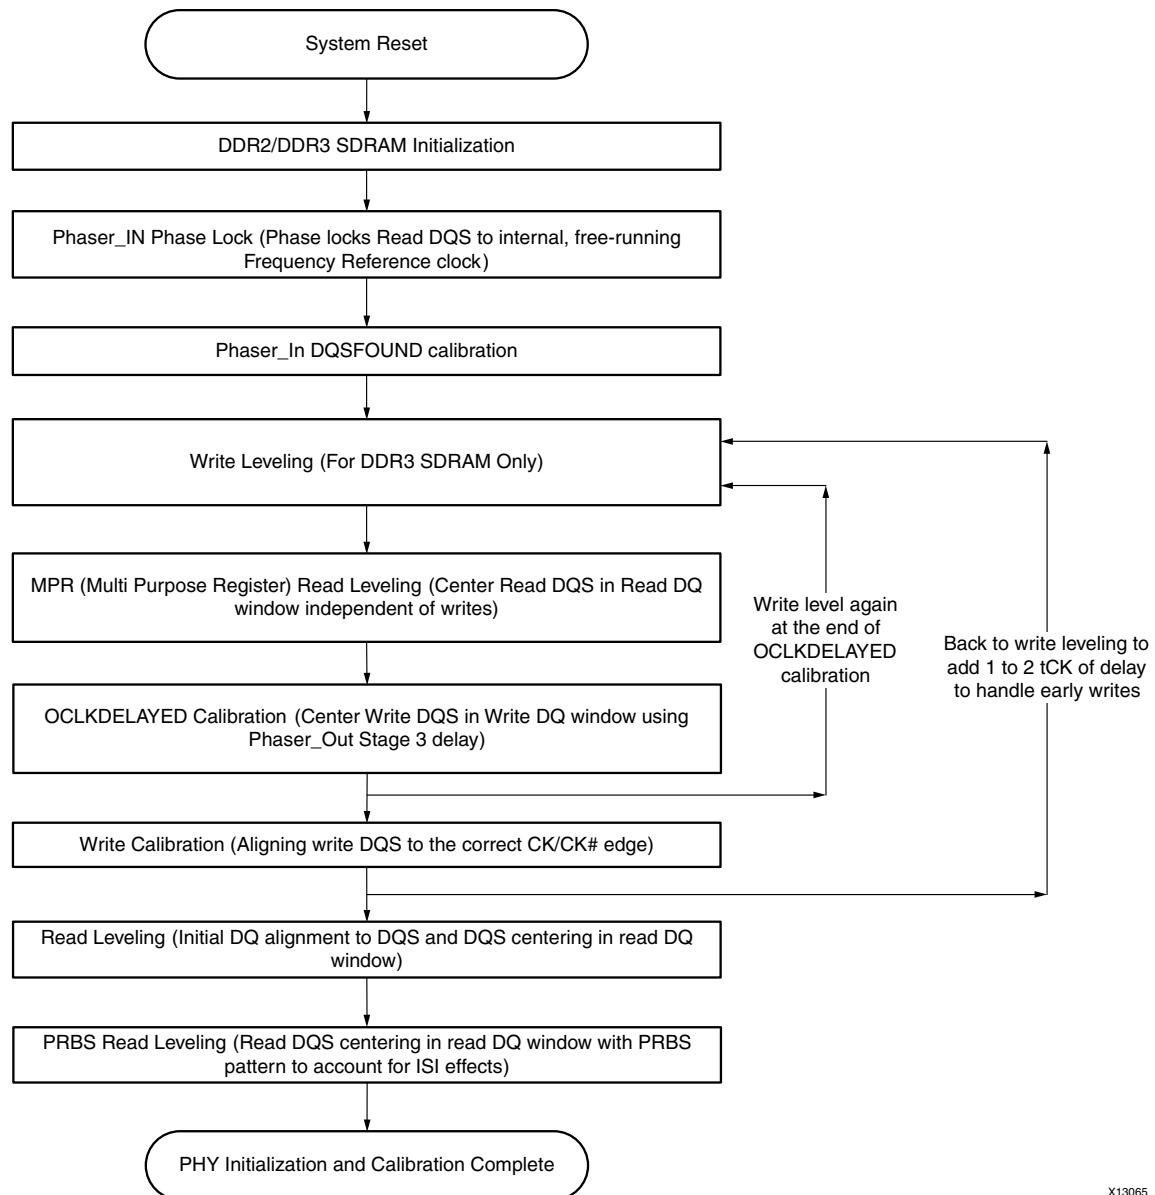

Figure 1-55: PHY Overall Initialization and Calibration Sequence
**Figure 1-55** shows the overall flow of memory initialization and the different stages of calibration.
The calibration stages in Figure 1-55 correspond to these sections: